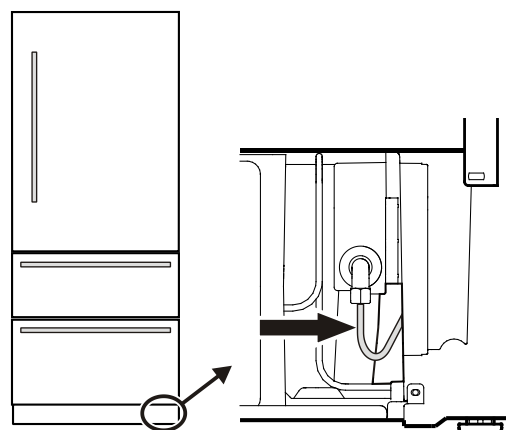

Figure 20
8. Screw the OD adapter onto the solenoid valve (**Figure 20**).